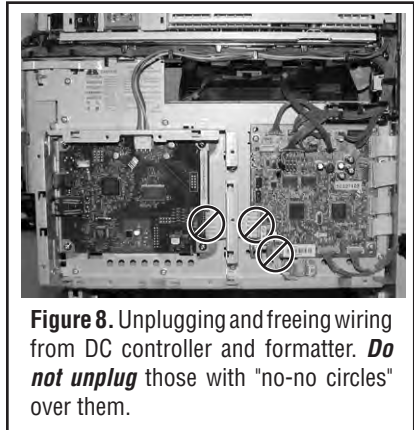

Figure 8. Unplugging and freeing wiring from DC controller and formatter. **Do not unplug** those with "no-no circles" over them.
- Unplug all wire plugs from formatter and DC controller *except* those with "no-no circles" over them, as shown in Figure 8.